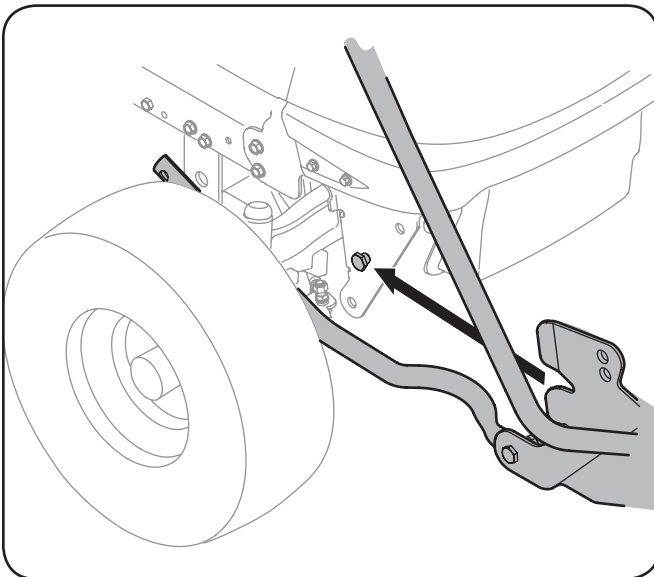

Figure 3-20
- With the help of an assistant, lift up the auger housing and move it so that it rests over the shoulder bolts installed in Step 1 of this section. See Figure 3-20.